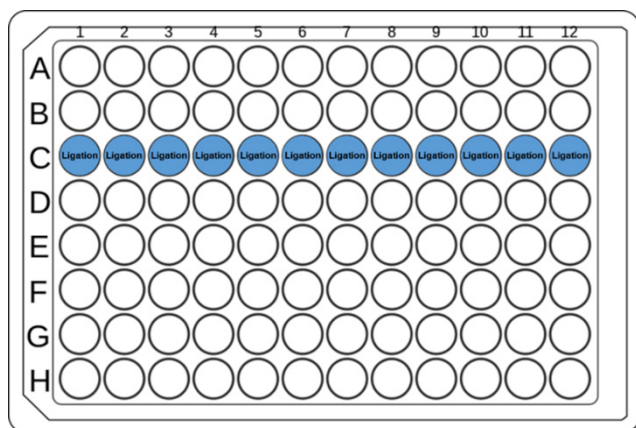

Figure 24: Ligation Mix in Library Prep Master Mix Plate.
- Using a single-channel pipette, aliquot the **Ligation Mix** evenly across all 12 wells of Row C in the 96-well **Library Prep Master Mix** plate (Figure 24). Seal the plate and briefly spin to collect all liquid in the bottom of the wells, and place on ice. Ensure there are no bubbles present in the bottom of the wells.